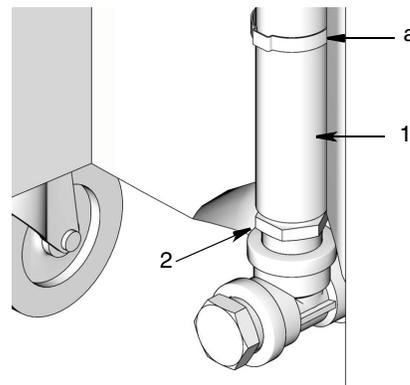

FIG. 6
- Use a heat gun to heat ends of sight tube (1) to soften and elongate it.
- Push end of sight tube (1) over lower tube adapter (2) (FIG. 6).
- Slide tube clamp (a) about half way down barbed face of tube adapter (2). Tighten to 15 in-lb (1.695 N.m). (FIG. 6).
- Push other end of sight tube (1) over upper tube adapter (2).
- Slide tube clamp (a) about halfway down barbed face of tube adapter (2) and tighten to 15 in-lb (1.695 N.m).